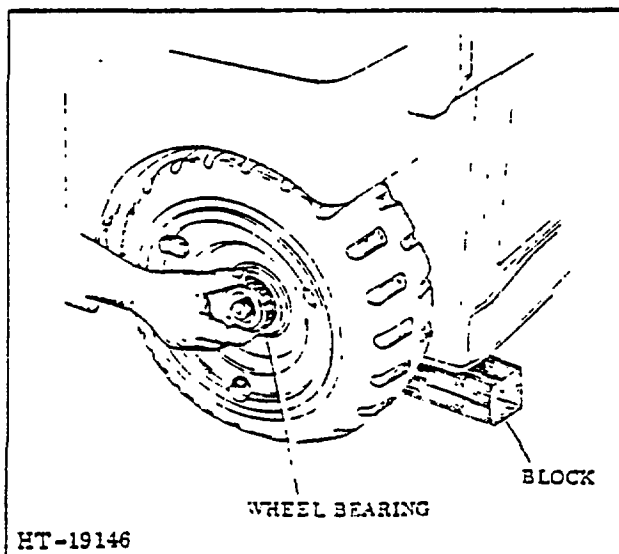

Figure 5. Removing Wheel Bearing
- a. Raise the truck sufficiently so that the drive wheel clears the floor. This may be done by tilting the mast to its full backward position and inserting a block under the mast assembly, then tilting mast to its vertical position. (See Figure 5.)